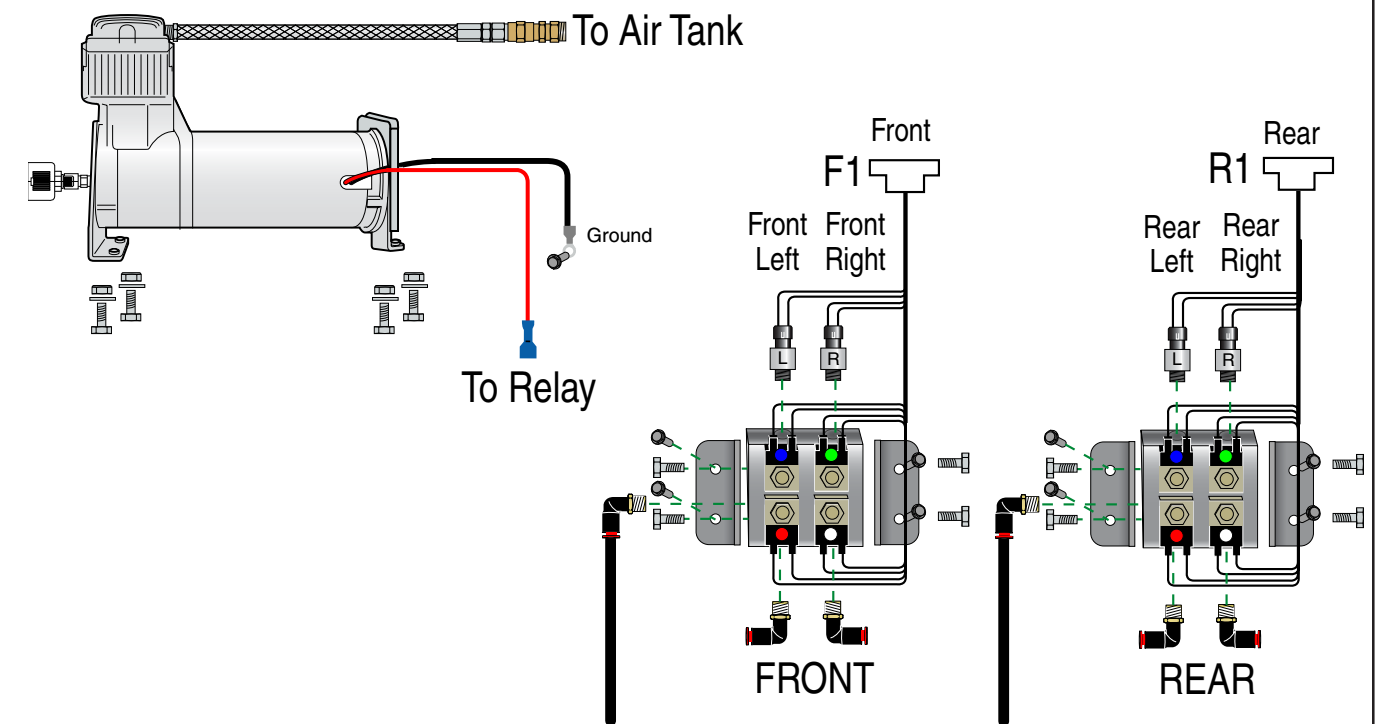

Figure 1
1. Attach the filter to the port on the end of the compressor (Figure 1).
2. Attach air fittings to the remaining three ports on each manifold (Figures 1 and 8).
3. Select a rigid mounting location on your vehicle's frame or crossmember that shields the compressor from the elements and heat sources (Figure 1).
4. Attach the compressor to the frame rail or crossmember using Figure 1 as a guide.